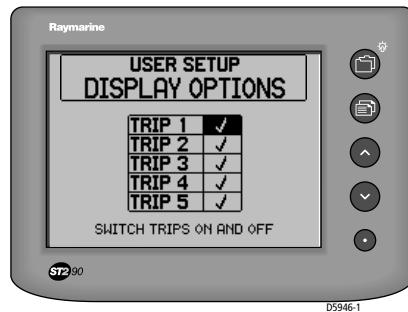

Figure 2-15: Trip counters setup
1. With the trip counters page displayed (*Figure 2-15*), use the ▲ or ▼ button to highlight the required counter.